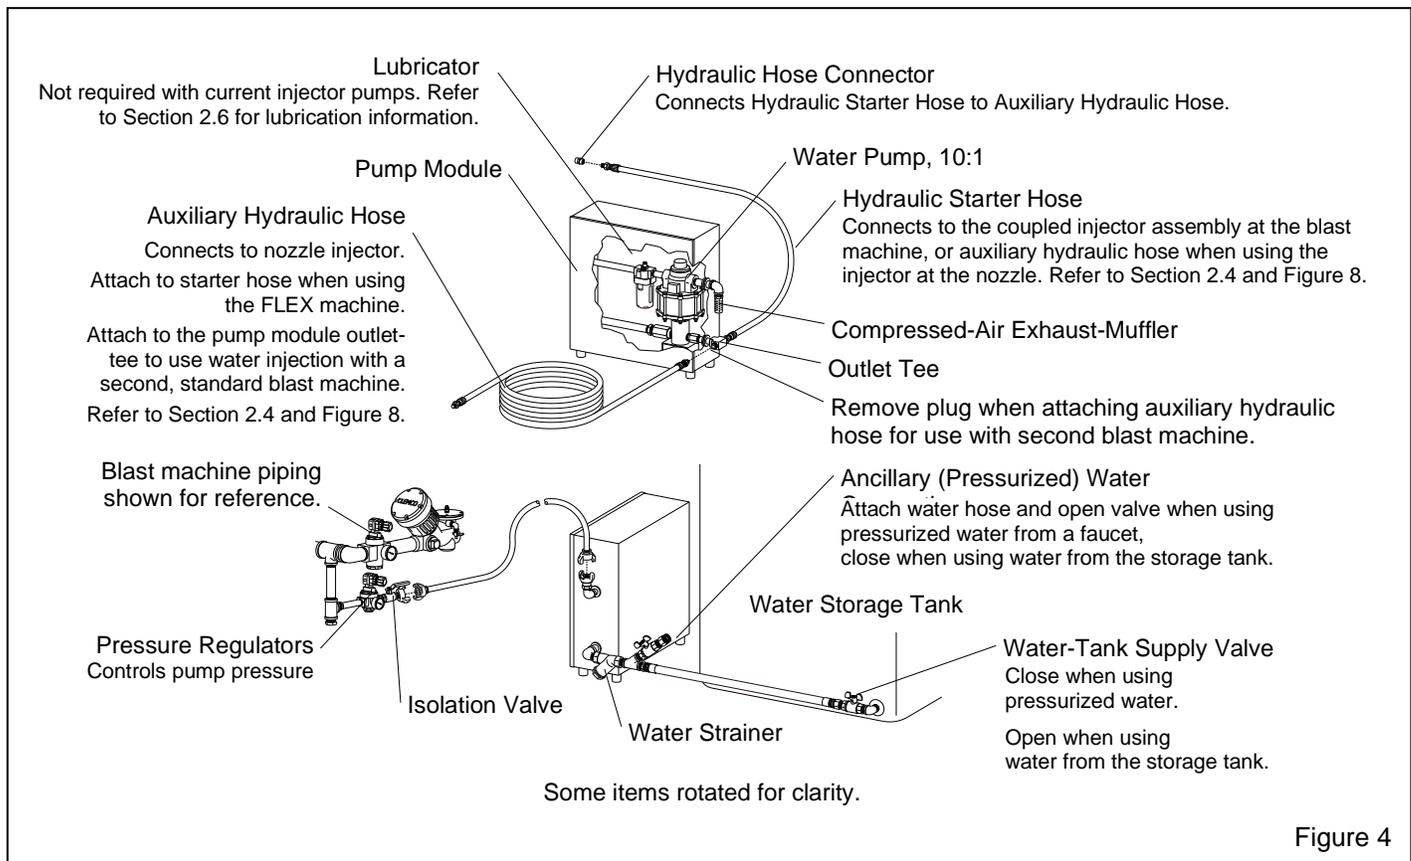

Figure 4
1.6.3 Injector pump module – Figure 4
1.6.3.4 The water outlet tee is for attaching the hydraulic starter hose; this hose connects to the coupled injector assembly when using the injector at the blast machine, as shown in Figure 4 and Figure 8. The tee also has a plug on the unused leg; when using the nozzle injector with a separate (additional) blast machine, remove the plug and attach the hydraulic hose. Refer to Section 2.4.